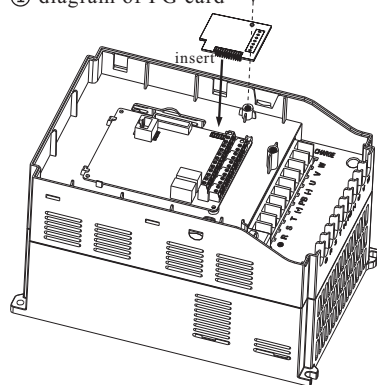
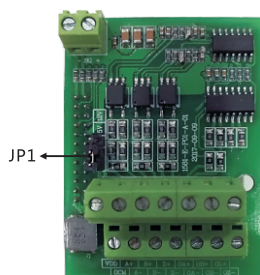

Figure 1 Install of PG extension card
Figure 2 PG card
- ①: make sure the AC drive is power off completely.
- ②: insert PG card and extension card of inverter.
- ③: fix by screw as Figure 1
- 2 ) The appearance, terminal block and function description are shown in figure 1, figure 2 and table 1.